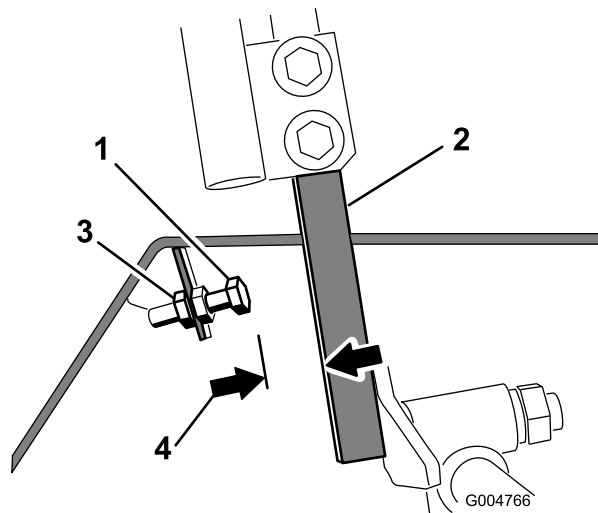

Figure 54
4. Loosen the jam nut on the stop bolt for a control lever (Figure 54).